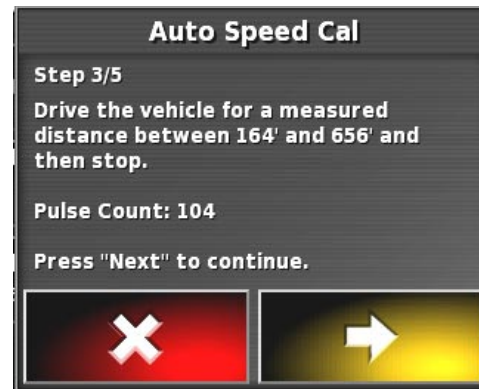

Figure 8.54 - Wheel Sensor Calibration - Step 3
6. Refer to *Figure 8.54*. Drive steadily in a straight line. Pulses will accumulate from the ground speed sensor. When you have traveled the distance between 164' and 656' stop.